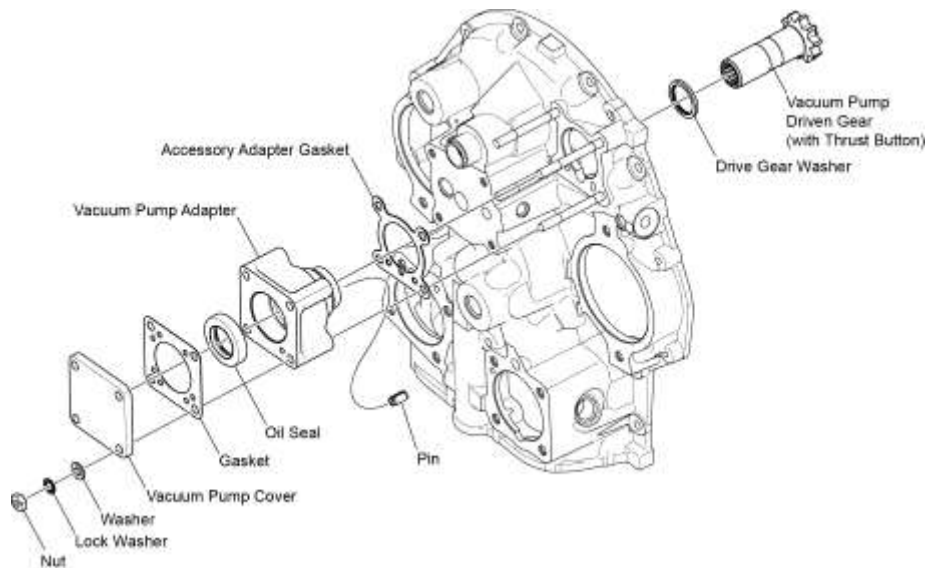

Figure 2
- (1) Remove the four nuts, lock washers, and washers from the vacuum pump adapter or vacuum pump cover (Figure 2). Discard the lock washers.
- (1) Apply engine oil mixture to the vacuum pump driven gear.
- (2) Install a new pin in the vacuum pump adapter.
- (3) Install the vacuum pump driven gear (with the thrust button already installed inside the geared end) and drive gear washer in the vacuum pump adapter (Figure 2).
- (4) Install a new accessory adapter gasket on the vacuum pump adapter in the correct orientation as shown in Figure 2.
- (5) Install the vacuum pump adapter with a serviceable oil seal on the accessory housing as shown in Figure 2.
- (6) Install the vacuum pump with a new gasket on the vacuum pump adapter in accordance with the aircraft manufacturer's instructions.